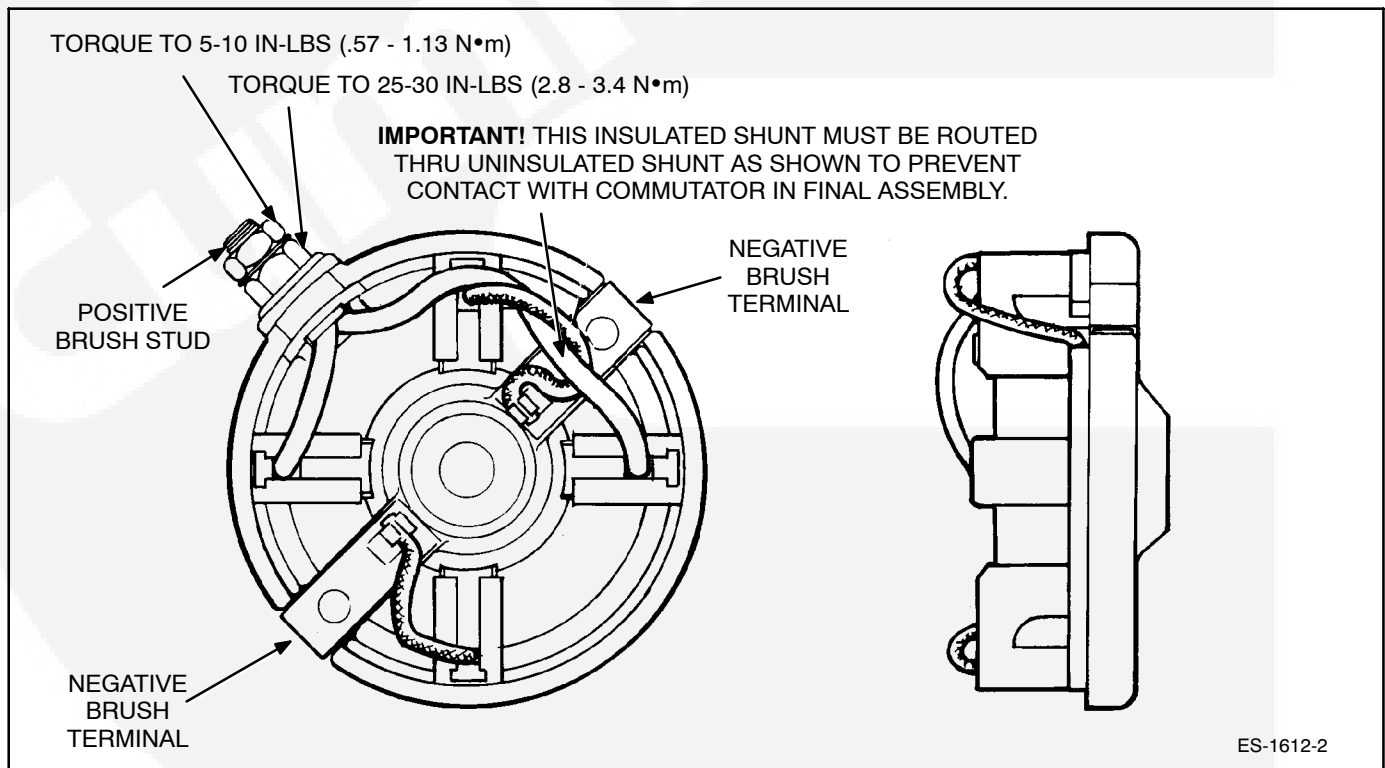

FIGURE 8-33. BRUSH ENDCAP
2. Push negative brush terminals over through-bolt holes on brush endcap. See Figure 8-33.